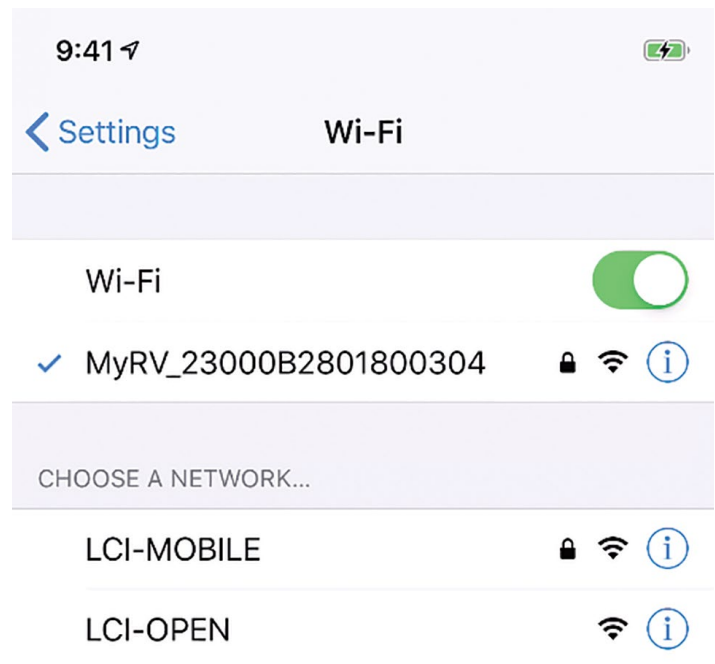

Fig.17
2. Select the name of the desired, secured Wi-Fi network (**Fig.17**).